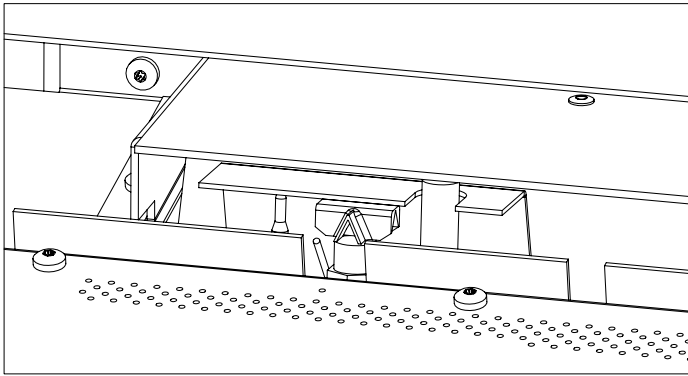

Figure 30: Pilot Orientation
4. Convert the existing pilot orifice with the one provided in this kit (see Figure 28) using a 7/16 inch wrench. Fully unthread and remove the pilot head and replace the orifice insert. Retighten pilot, if head does not reach proper orientation in the snug position then contact your Enviro dealer (see Figure 30).